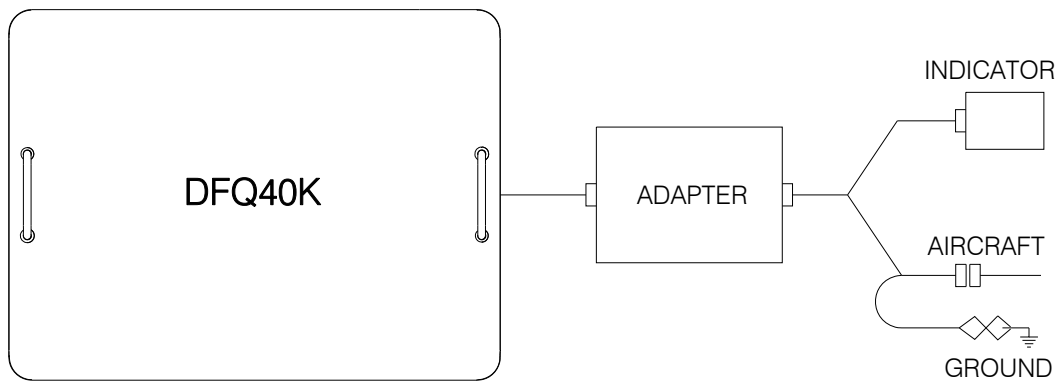

Figure 8 AIRCRAFT INSULATION TEST CONFIGURATION
(3) Gain access to the cockpit indicator or the appropriate Fuel Quantity System electrical connector(s) necessary for this procedure.**(4) Disconnect at the cockpit indicator or the appropriate electrical connector(s).****(5) It may be necessary to position an aircraft tank select switch and/or an Adapter Cable select switch for this procedure.****B. Connecting Test Set****(1) Position the equipment conveniently for the following procedures.****(2) Connect to the Test Set the Adapter Cable specific for the Aircraft being tested, as shown in Figure 8 or as directed in the Adapter Cable Instructions.****(3) Connect the Adapter Cable between the Indicator and the aircraft wiring plug.****(4) Connect the ground lead from the adapter (if so equipped) or from the Test Set **GND** receptacle, to a secure airframe ground.**